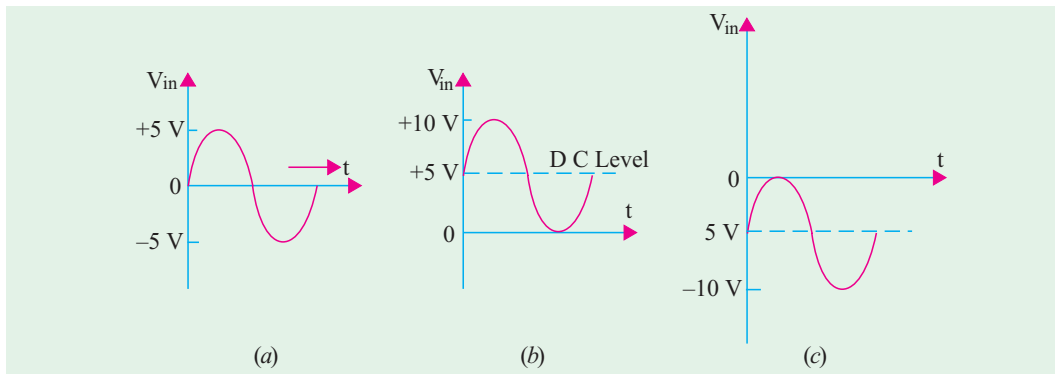

Fig. 52.40
By way of illustration, consider the signal shown in Fig. 52.40 (a). It is a sine wave with equal positive and negative swings of  $\pm 5$  V about 0 V. Hence, its average value over one cycle is zero (it has no dc level).
In Fig. 52.40 (b), the signal waveform has been lifted up so as to just touch the horizontal axis. It is now said to have acquired a dc level of 5 V. This output wave-form is said to be **positively** clamped at 0 V. Fig. 52.40 (c) shows an output waveform which is negatively clamped at 0 V.
A circuit capable of accepting the input signal shown in Fig. 52.40 (a) and delivering the output shown in Fig. 52.40 (b) or (c) is called a **clammer**. Such a circuit has a minimum requirement of **three** elements.
– Fig. 52.40 (a)